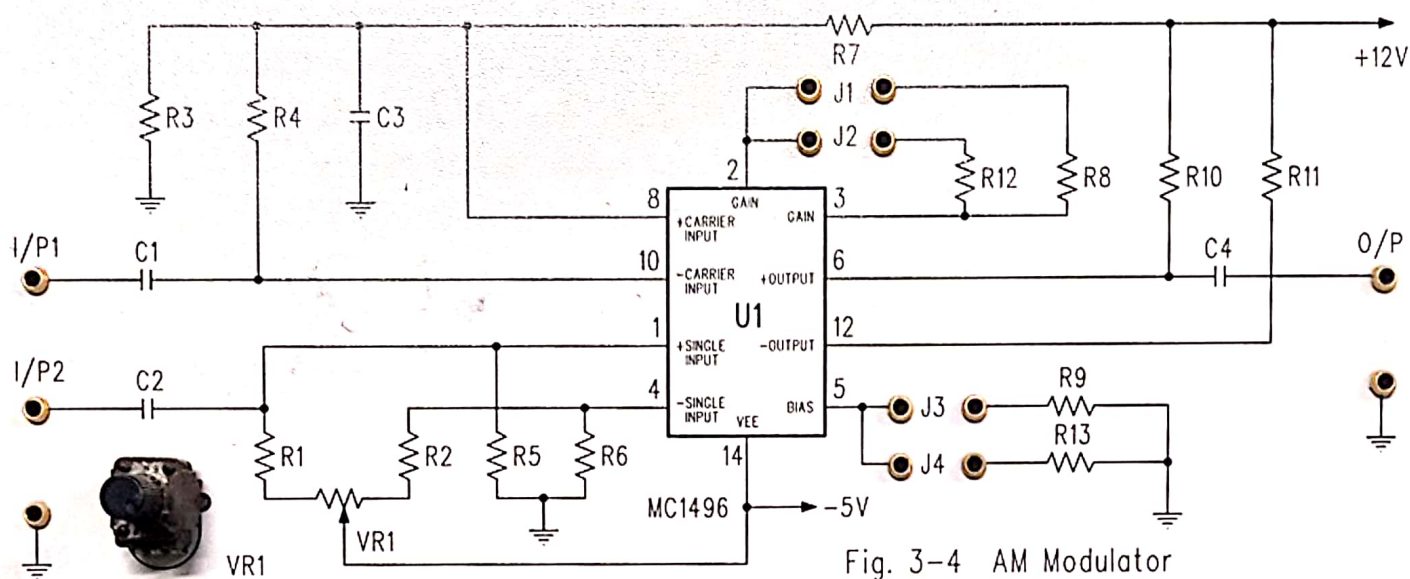

Fig. 3-4 AM Modulator
1. In Fig. 3-4, if we change the value of R_8 from 1 k Ω to 2 k Ω , what is the variation of the AM output signal?
2. In Fig. 3-4, if we change the value of R_9 from 6.8 k Ω to 10 k Ω , what is the variation in the dc bias current of the MC1496?